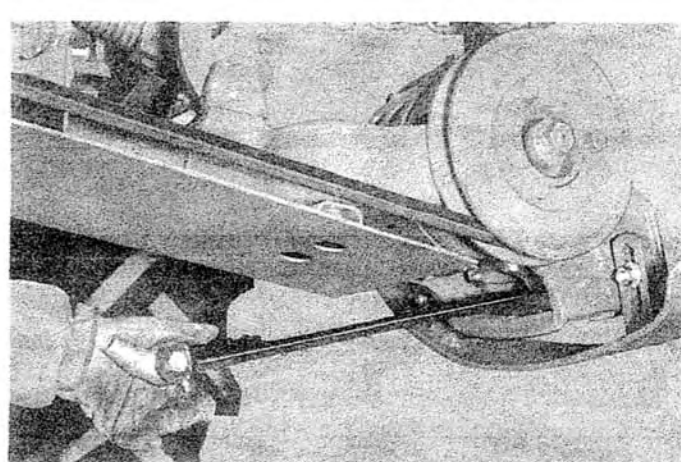

Fig. 63 - Inserting Knife
21. Slide the knife into the cutter bar (Fig. 63) and attach it to the center lever in the drive unit by means of the 7/16 x 3/4" hex head cap-screw and heavy flat washer provided. To provide ease of installation, rotate the belt pulley by hand until the center lever is at its innermost position.